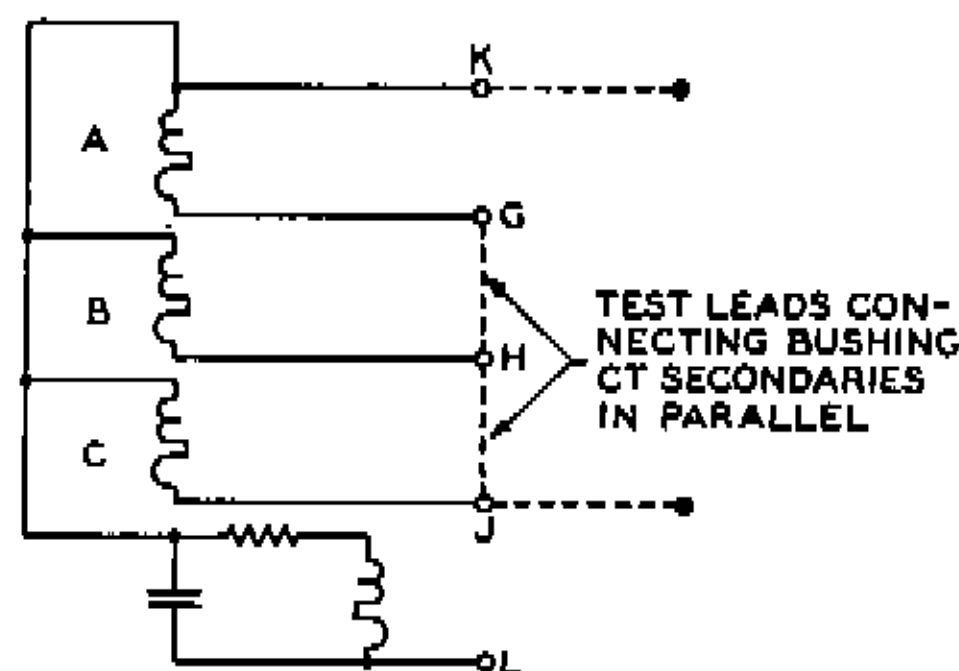

FIGURE 30
For units that are electronically controlled the sensing transformers and battery-charging transformer can be tested using the circuits shown in Figure 30. An a-c ammeter with a 0-500 milliamperere range is the only equipment necessary. Assemble test circuit as indicated in Figure 30 at the top. Connect the phases in series and close the recloser contacts manually by releasing brake and cranking the motor shaft.
1. Connect sockets G, H and J of the control-cable receptacle in series with jumper leads as indicated in Figure 30. The jumper leads connect the secondaries of the current transformers in parallel so that total output current, measured at points K and J, should be 150 ma.